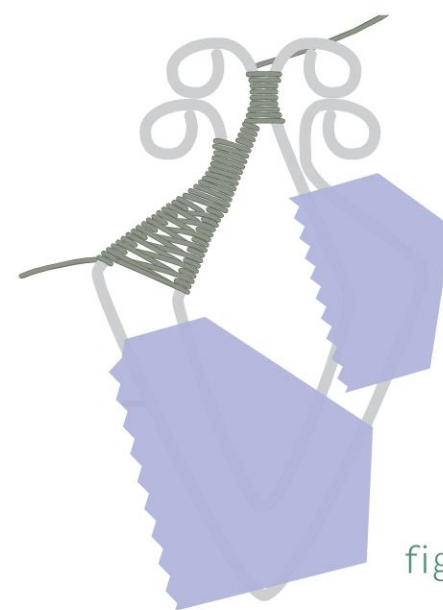

figure 5
- 14 Work Weave Pattern 1, weaving to the Inner Frame's first bend (Figure 5).